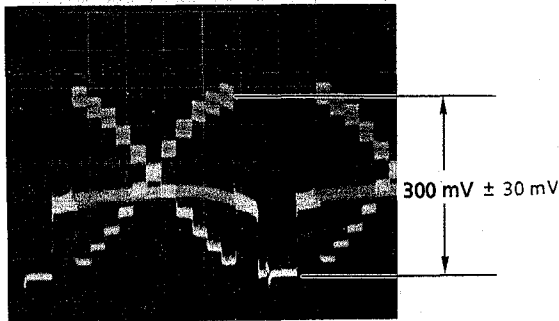

Fig. 4-1
- Adjust data by **ARROW** keys so that CDS output signal at pin 1 of CN4 becomes 300 mV as shown in Fig. 4-1.